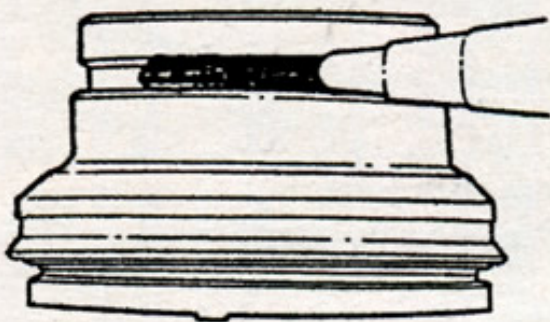

FIGURE 1
4. Place a bead of silastic sealant (P/N 1052366) or equivalent into boot groove on piston (see Figure 1).